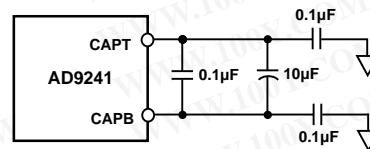

Figure 27. Recommended CAPT/CAPB Decoupling Network
The actual reference voltages used by the internal circuitry of the AD9241 appear on the CAPT and CAPB pins. For proper operation when using the internal or an external reference, it is necessary to add a capacitor network to decouple these pins. Figure 27 shows the recommended decoupling network. This capacitive network performs the following three functions: (1) in conjunction with the reference amplifier, A2, it provides a low source impedance over a large frequency range to drive the A/D internal circuitry, (2) it provides the necessary compensation for A2, and (3) it bandlimits the noise contribution from the reference. The turn-on time of the reference voltage appearing between CAPT and CAPB is approximately 15 ms and should be evaluated in any power-down mode of operation.